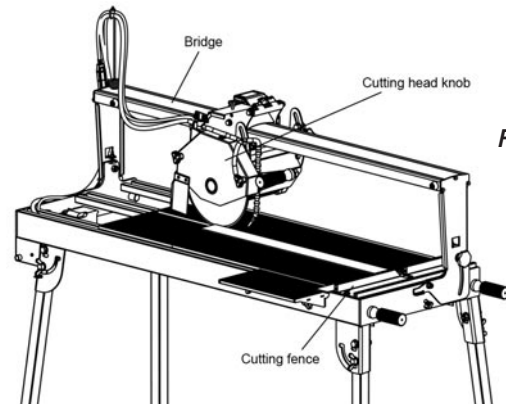

Fig. 13
2. Using a steel square, as shown in figure 13, align the square's long arm with the blade. Both the front and the rear end of the blade's rim should have contact.